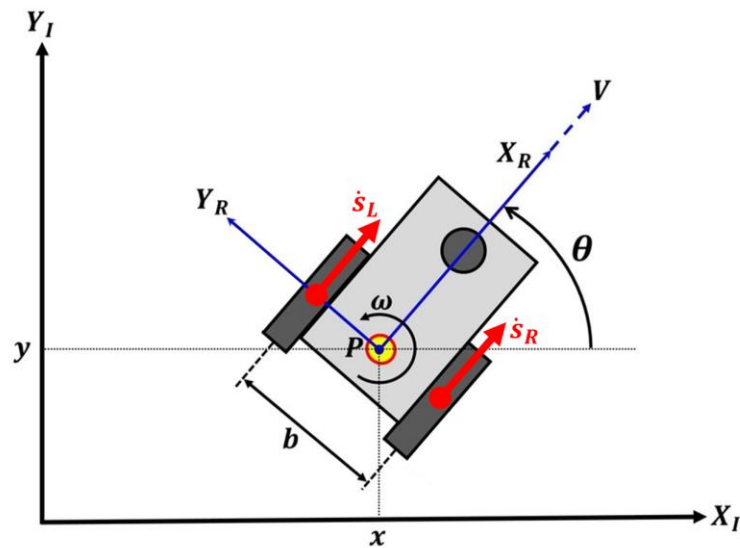
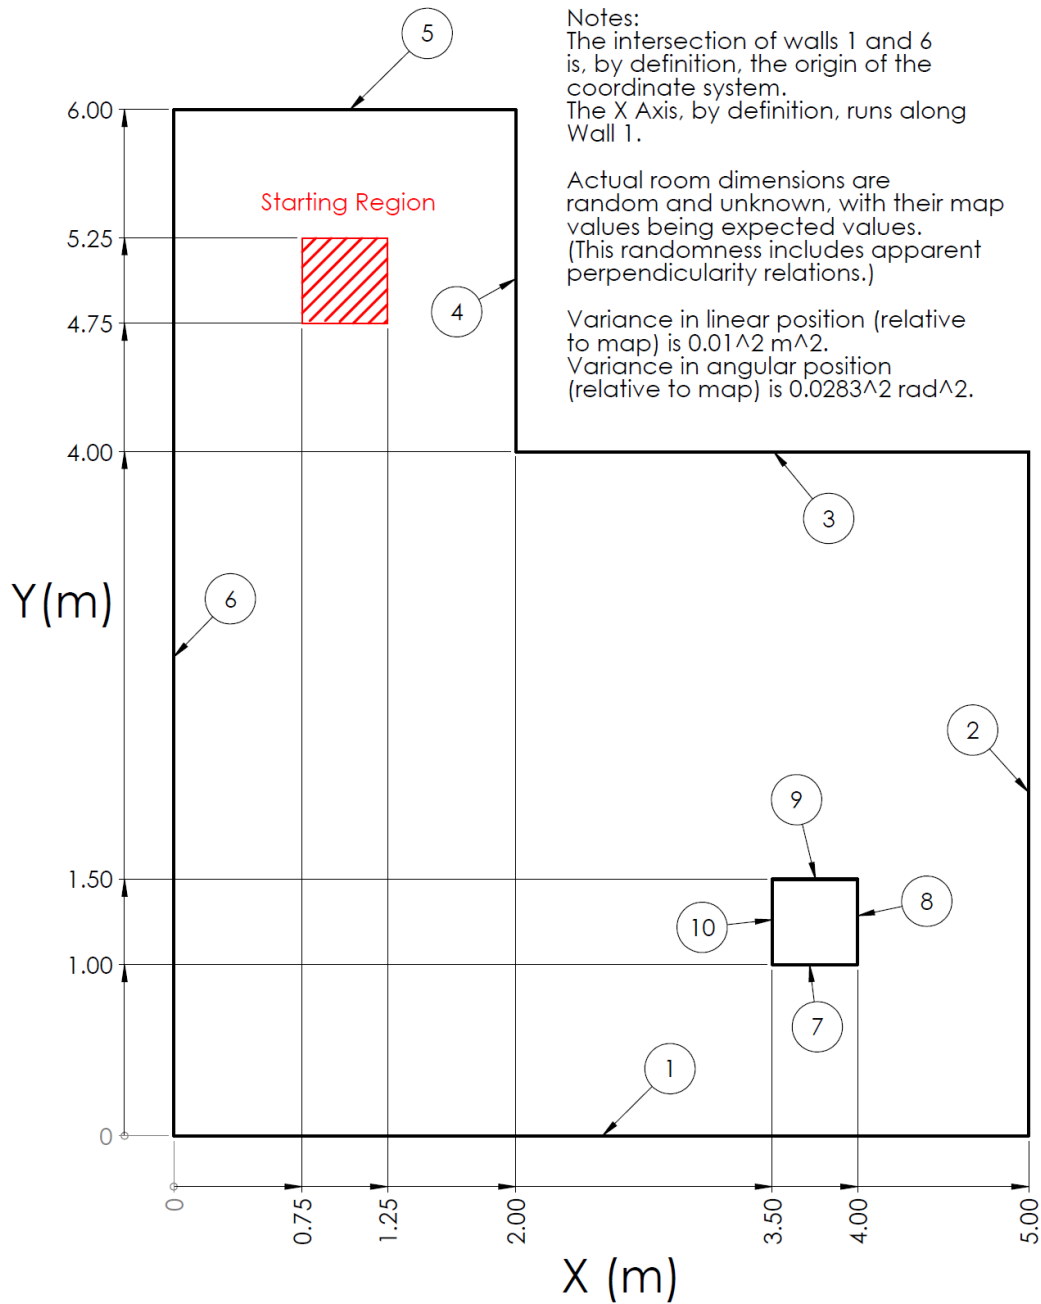

Figure 1 Diagram illustrating main odometry-related quantities
Figure 2 Map of the room traversed in this problem, with walls labeled
In this context-oriented project, you will simultaneously estimate the pose (position and orientation) of a wheeled robot in a room, and the position and orientation of the 10 walls in the room. A map of the room is shown in Figure 2. First, you will estimate the pose trajectory of the robot based solely on odometry (wheel rotation measurement) data motor encoders. Next, you will integrate LIDAR data to leverage knowledge of the structure of the room to improve the pose estimate from that of odometry alone. This process simultaneously allows for improvement of the robot's model of the room. The Extended Kalman Filter will be the filter of choice for this analysis.
The central point of the robot, P in Figure 1, has a uniform probability of starting anywhere in a square starting region, marked red in the map in Figure 2. The initial orientation of the robot is independent of its starting position, and has a uniform probability of being between $-5\pi/9$ and $-4\pi/9$ radian (centered about pointing in the negative y direction).
Now that you have an effective prediction model set up, the next step will be to integrate the structure of the room (i.e., the location of each of the 10 walls) and measurements by the LIDAR mounted on the robot (centered on point *P* in Figure 1, for simplicity), in order to correct the robot pose estimate, and to learn about the room.
d) Based on the map in Figure 2 and the Notes therein, **generate an initial a priori estimate and initial covariance for the entire augmented state.** Assume that all elements of the initial a priori augmented state estimate are independent.
Hint 1: You've already calculated the robot pose section of the initial a priori augmented state estimate and covariance. For the wall parameters section, use the dimensions in the map in Figure 2 to generate the state estimate. Refer to the Notes in the Figure for information on variance.
For extra credit, implement in `part_i_fitted_scan_labeler.m` an algorithm that automatically assigns each wall partition in a scan to a “true” wall label, corresponding to the wall labels in the map in Figure 2. This algorithm is allowed to take as inputs the estimated full augmented state x_t , as well as the LIDAR data, and any post-processed output of the LIDAR data generated by functions you have created. You are NOT allowed to use `scan_partition_labels.csv`. *Hint: See the SLAM Lecture Slides on “Data Association”.*